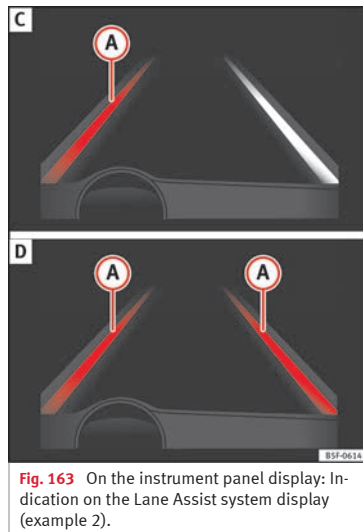

Fig. 163 On the instrument panel display: Indication on the Lane Assist system display (example 2).
- The system is operational, the highlighted line **A** indicates that there was a risk of involuntarily crossing the lane line and that the steering is being adjusted to correct the angle » **Fig. 163 C.**
- The two lines **A** light up simultaneously when both lane lines are recognised and the Lane Assist function is active » **Fig. 163 D.**